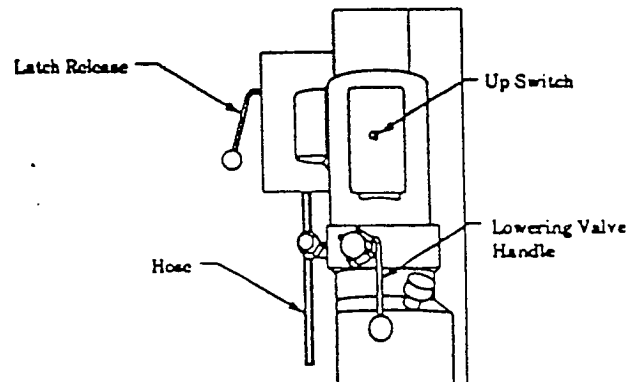

Fig. 22
- A. Actuate up switch on power unit, Fig. 22.
5. **To Lower Lift:** Remove all tools or other objects from lift area. Push latch release handle fully and hold. Push lowering valve handle to lower Fig. 22.